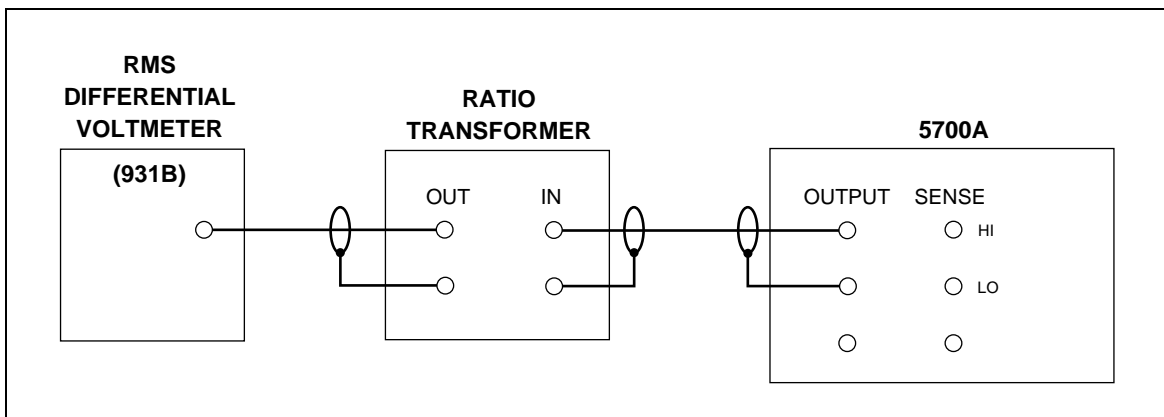

Figure 3A-19. Absolute Level Verification at 1 kHz (200 mV and 20 mV)
1. Connect the equipment as shown in Figure 3A-19.
6. Proceed as follows to test for frequency response. Connect the equipment as shown in Figure 3A-20.